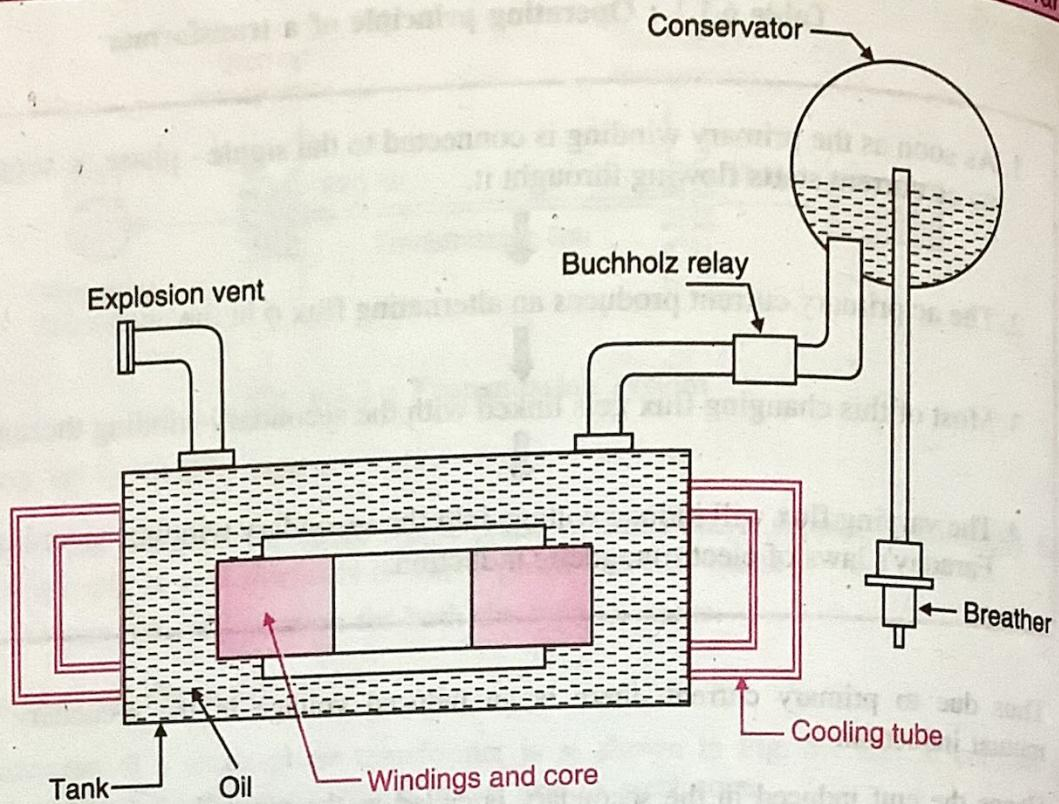

Fig. 6.2.1 : Construction of a single phase transformer
- The construction of a large single phase transformer is shown in Fig. 6.2.1.